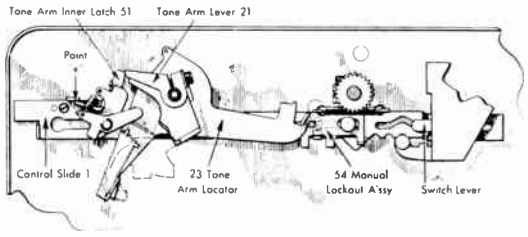

Figure SE26.
14. Poor Tone Quality: (a) broken or worn needle. Replace with a new, approved needle; (b) defective pickup cartridge, (try a new cartridge); (c) improper needle force--adjust to that recommended by the pickup manufacturer and in no case less than 1 ounce; (d) vertical friction--examine tone arm hinge for binds while moving arm up and down. (See figure SE26). The shielded wire emerging from back of the tone arm should be draped so as to allow free movement of the arm.